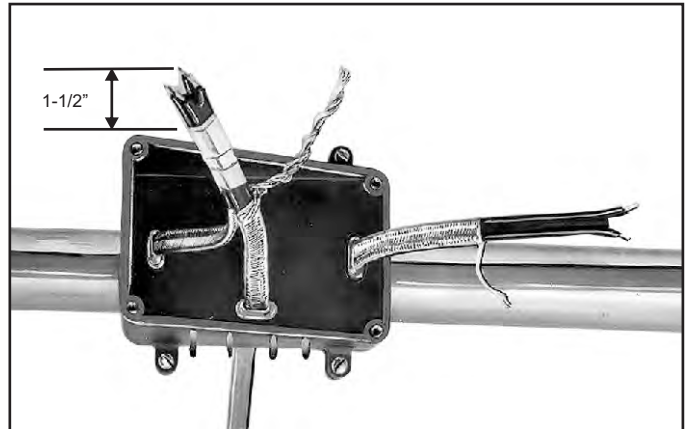

Figure 11
Align and tape together two (2) cables 1-1/2 inches from the end. Twist the corresponding conductors (and braid pigtails if present) together. See Figure 11.